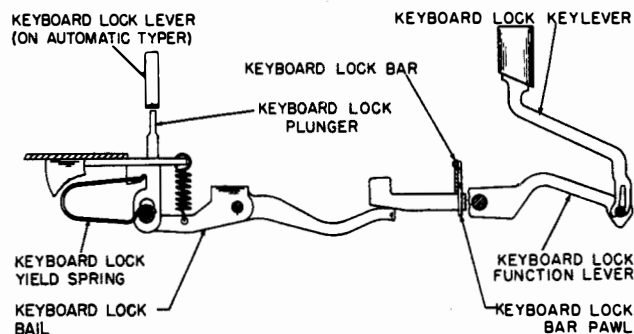

Figure 2-26. Keyboard Lock Mechanism
i. KEYBOARD LOCK MECHANISM.—Operation of the keyboard lock keylever (red) causes its function lever to raise the keyboard lock bar pawl (figure 2-26). As shown in paragraph 4.i.(8) of this section, the reception of two consecutive blank code signals by the Automatic Typer, results in its driving its keyboard lock lever downward—(Not applicable to TT-128A/UG, TT-129A/UG, TT-130A/UG, and TT-131A/UG). The lock lever makes contact with the lock plunger on the Keyboard and also pushes it down ward. As the plunger moves, it exerts pressure on the yield spring which con-